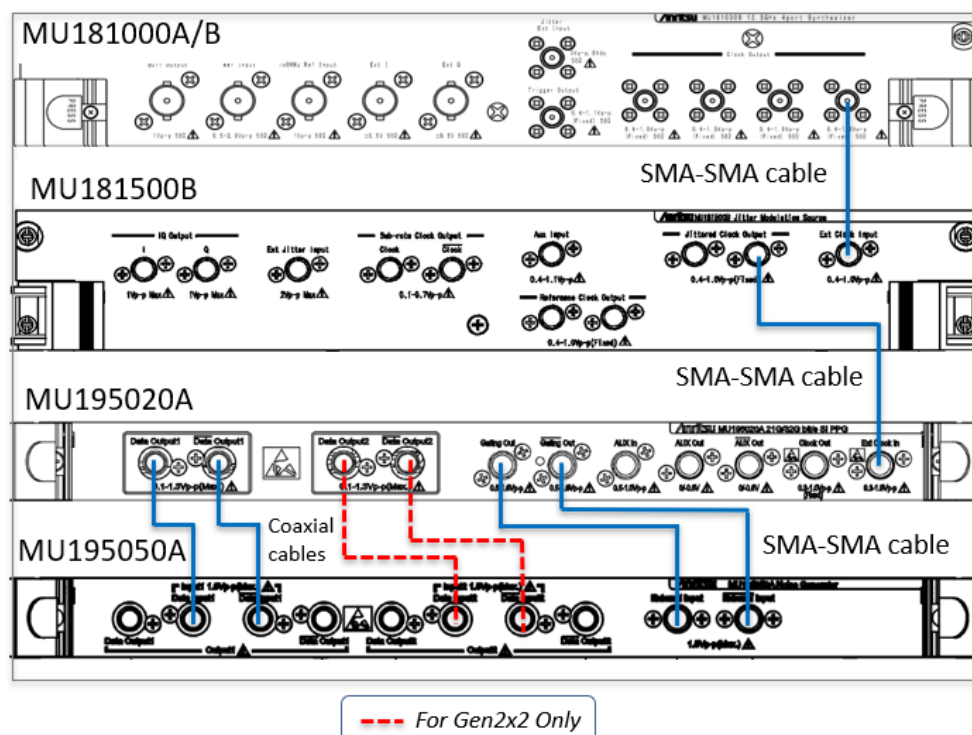

FIGURE 27. CONNECTION SETUP FOR MP1900A BERT GENERATOR SET MODULES FOR DUT TESTING
Figure 27 shows the connection setup between each module of the Anritsu MP1900A BERT Generator Set for DUT compliance testing.
1. Set up the BERT as shown in Figure 27.